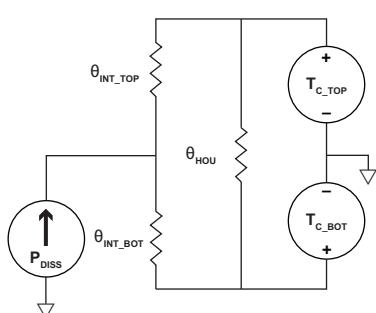
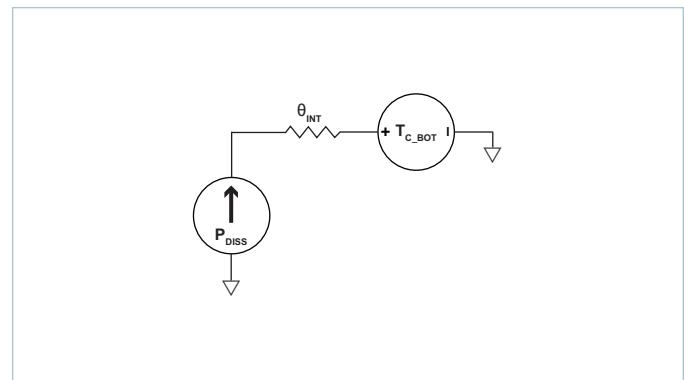

Figure 18 – Double sided cooling VIA thermal model
Figure 19 – Single-sided cooling VIA thermal model
The VIA package provides effective conduction cooling from either of the two module surfaces. Heat may be removed from the top surface, the bottom surface or both. The extent to which these two surfaces are cooled is a key component for determining the maximum power that can be processed by a DCM in a VIA package, as can be seen from specified thermal operating area on Page 4. Since the VIA package has a maximum internal temperature rating, it is necessary to estimate this internal temperature based on a system-level thermal solution. To this purpose, it is helpful to simplify the thermal solution into a roughly equivalent circuit where power dissipation is modeled as a current source, isothermal surface temperatures are represented as voltage sources and the thermal resistances are represented as resistors. Figure 18 shows the "thermal circuit" for the VIA package.
- Single side cooling: the model of Figure 18 can be simplified by calculating the parallel resistor network and using one simple thermal resistance number and the internal power dissipation curves; an example for bottom side cooling only is shown in Figure 19.